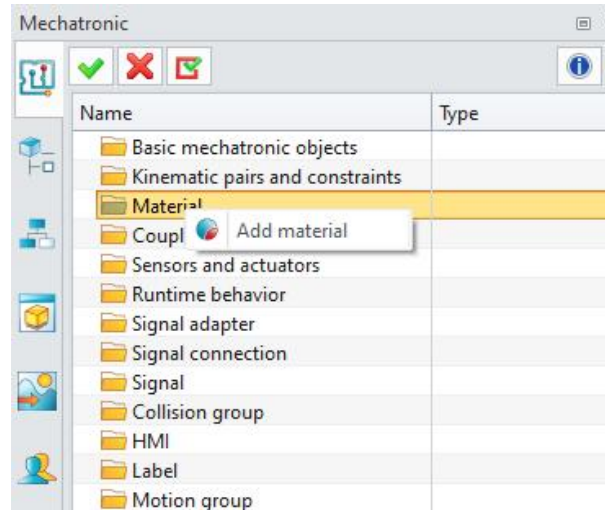

Figure 13-6: Add materia
- Open the "Materials" window.(Figure 13-6)